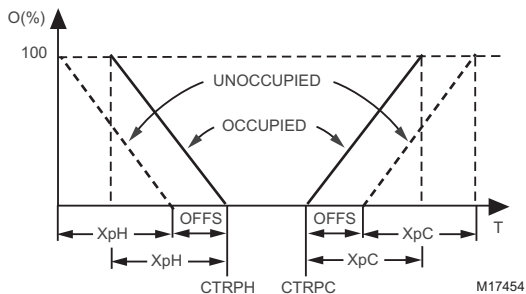

Fig. 21. Sequence control occupied/unoccupied function.
- Heating and cooling sequence applications: SOFFS value is added to cooling control point (CTRPC) and subtracted from heating control point (CTRPH). See Fig. 21.
- Heating and cooling sequence applications: NOFFS value is added to cooling control point (CTRPC) and subtracted from heating control point (CTRPH). See Fig. 21.